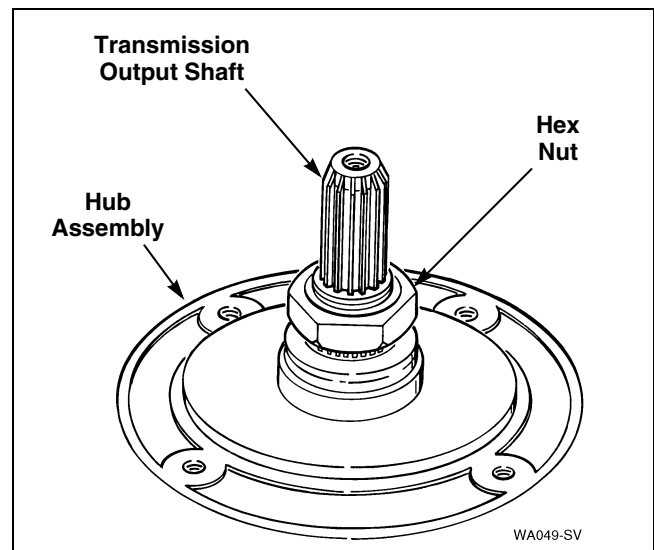

Figure 30
- j. Remove large hex nut using a No. 306P4 Hex Wrench. Refer to *Figure 30*.